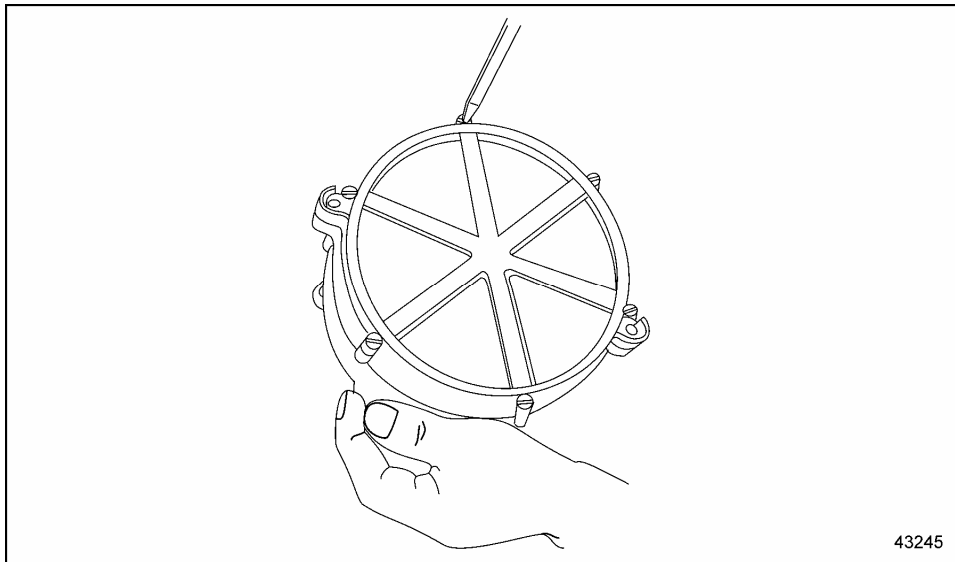

Figure 1 Remove Cover Screws from Regulator
2. Remove and discard the six (6) cover-retaining screws. See Figure 1.